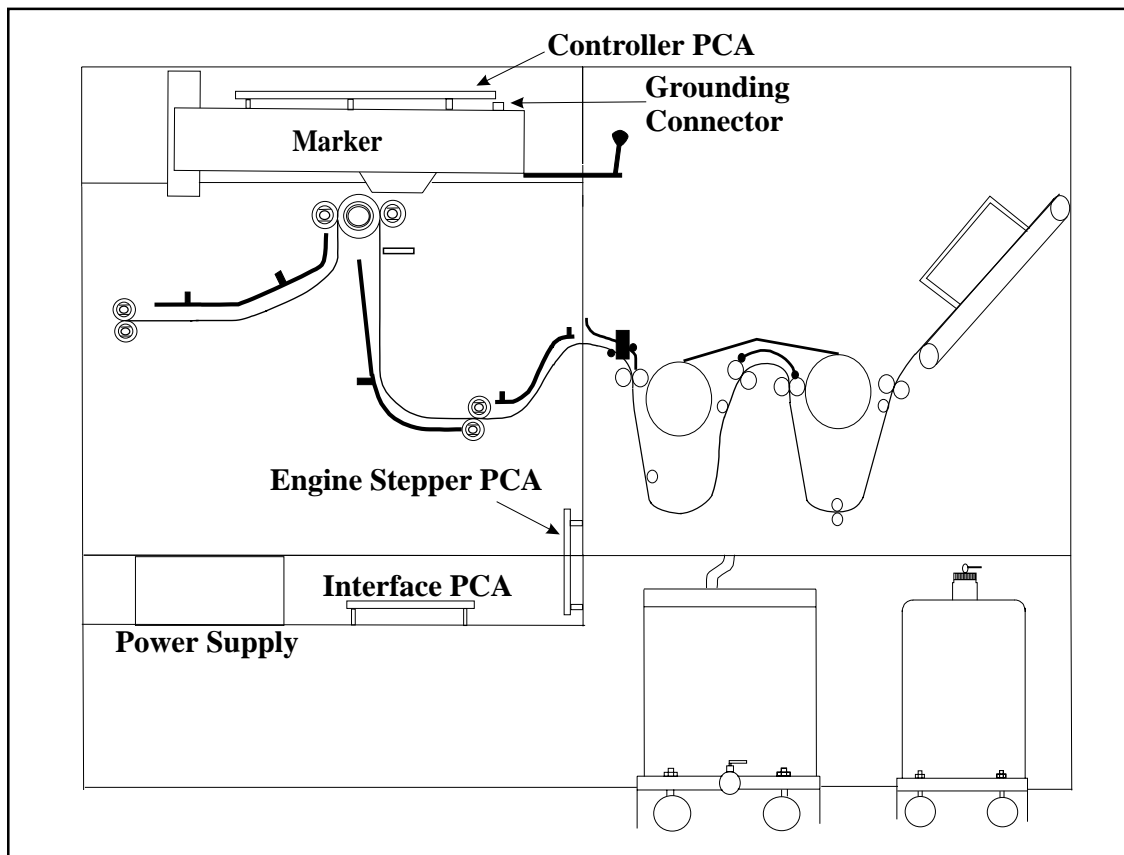

Figure S4-1. Location of the PCAs
The controller PCA is attached to the top of the marker (See Figure S4-1). Controller PCA electronics perform the following functions:
- b) Disconnect J1 (the laser diode connector) first, and immediately connect the cable to the brown grounding connector located underneath the PCA on the right side of the marker assembly frame. See Figure S4-1. This prevents damage to the highly sensitive laser diode.
The interface PCA is located underneath the imager towards the front. See Figure S4-1.
The engine stepper PCA is located underneath the right side of the imager mounted on the side of the chassis (see Figure S4-1).